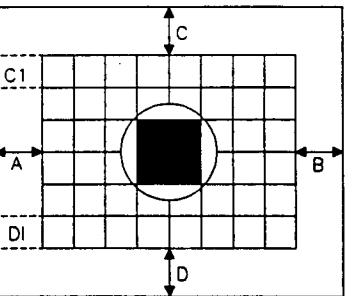

Figure 6
- (1). Set the monitor to MODE 3(31KHZ).
- (2). Adjust the FBT Screen control until the raster appears.
- (3). Adjust VR404 until the raster is centered in the CRT (See Figure 6).
2. Adjust VR304 until $| C-D | \leq 2mm$ (See Figure 6).
2. Adjust VR301 until $| C1-D1 | \leq 2mm$ (See Figure 6).